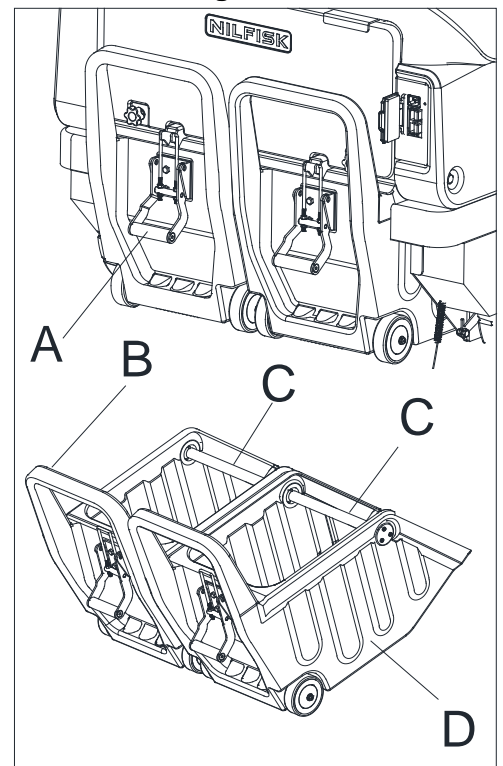

Figure 11
6. The hopper (D, Figure 11) should be emptied after each working cycle and when it is full (see the next section).
3. Disengage the latch (A, Figure 11) by pulling its lower end.
4. Remove the hopper by disengaging it from the inner guides with the handle (B, Figure 11).
5. Discharge all the debris into special containers. To make discharging procedure easier, there is an inner box with handle (C, Figure 11) inside the hopper.
6. Install the hopper (D, Figure 11), and engage it into the internal guides.
7. Fasten the latch (A, Figure 11). The machine is now ready to start cleaning again.
3. Empty the hopper (D, Figure 11) (see the previous section for the steps).